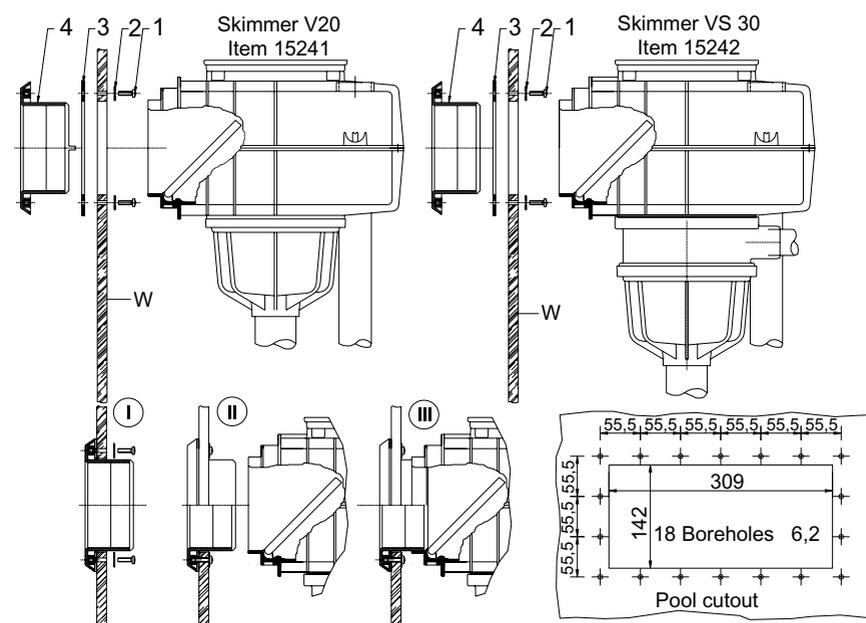

Fig. 22
3.7 Installing V20 and VS30 skimmers in prefabricated pools made of stainless, GFK or aluminum with skimmer wall lead-in (Item 1522) (Fig 22)